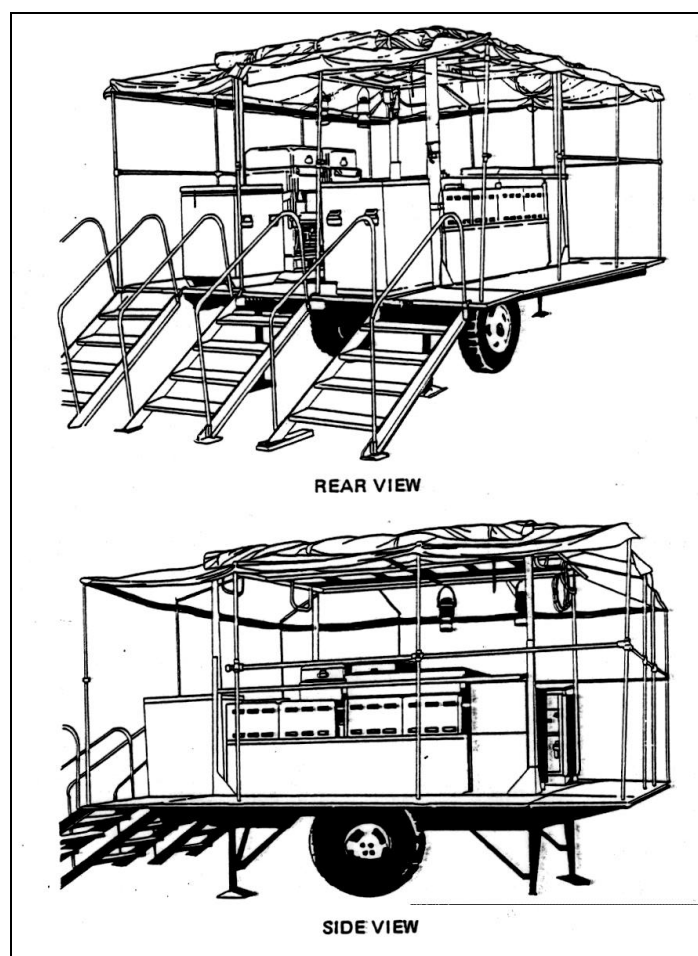

Figure 4-4. Mobile kitchen trailer MKT-75
The Army field feeding system calls for two hot meals and one MRE as the basic combat ration. A food service team with its food service equipment provides the T-Ration meals from unitized modules. The unit is authorized the trailer-mounted field kitchen (MKT-75, MKT-75A, MKT-82, MKT-85, or MKT-90 [LIN L28351]). The MKT is a collection of food preparation and serving equipment mounted on a 1-1/2-ton trailer (see Figure 4-4). One MKT can be used to prepare and serve A-, B-, H&S, or T-Ration meals for up to 300 soldiers per meal. The prime movers for the MKT are the 2-1/2-ton or 5-ton medium cargo trucks. Each MKT comes with a prime mover. The containerized kitchen (CK) will replace the MKT when development is complete and as it becomes available. The CK will be capable of supporting 500 soldiers and preparing any of the group ration meals. For more information on the MKT, see FM 10-23 and TM 10-7360-206-13. The unit is also authorized a sanitation center (SC [LIN S33399]) consisting of required equipment to clean and sanitize the food service equipment. One SC is required per MKT.